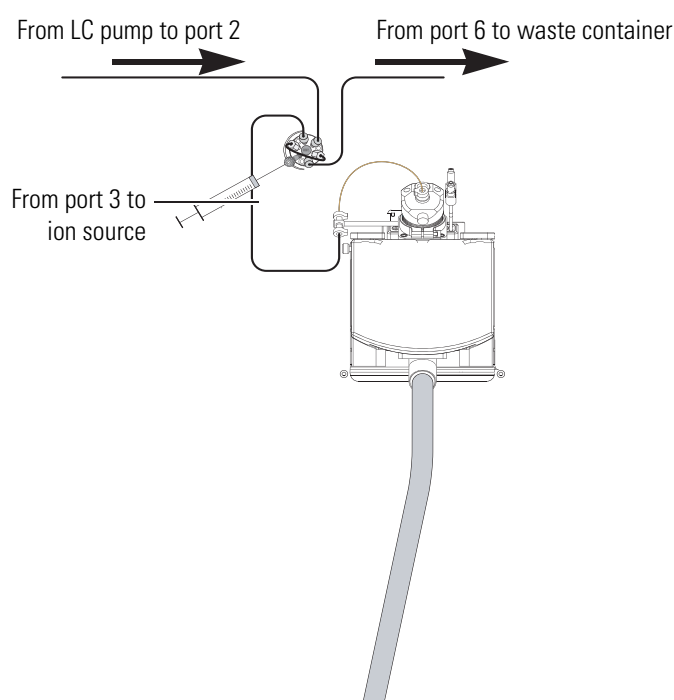

Figure 5-18. Plumbing diagram for loop injection into the solvent flow from an LC into an ESI probe
- For the ESI probe, use two fingertight fittings and two ferrules to connect a length of red PEEK™ tubing between port 3 of the switching valve and the grounding union. See Figure 5-18. To connect the other end of the grounding union to the ESI probe sample inlet, follow the instructions in the *Ion Max and Ion Max-S API Source Hardware Manual*.